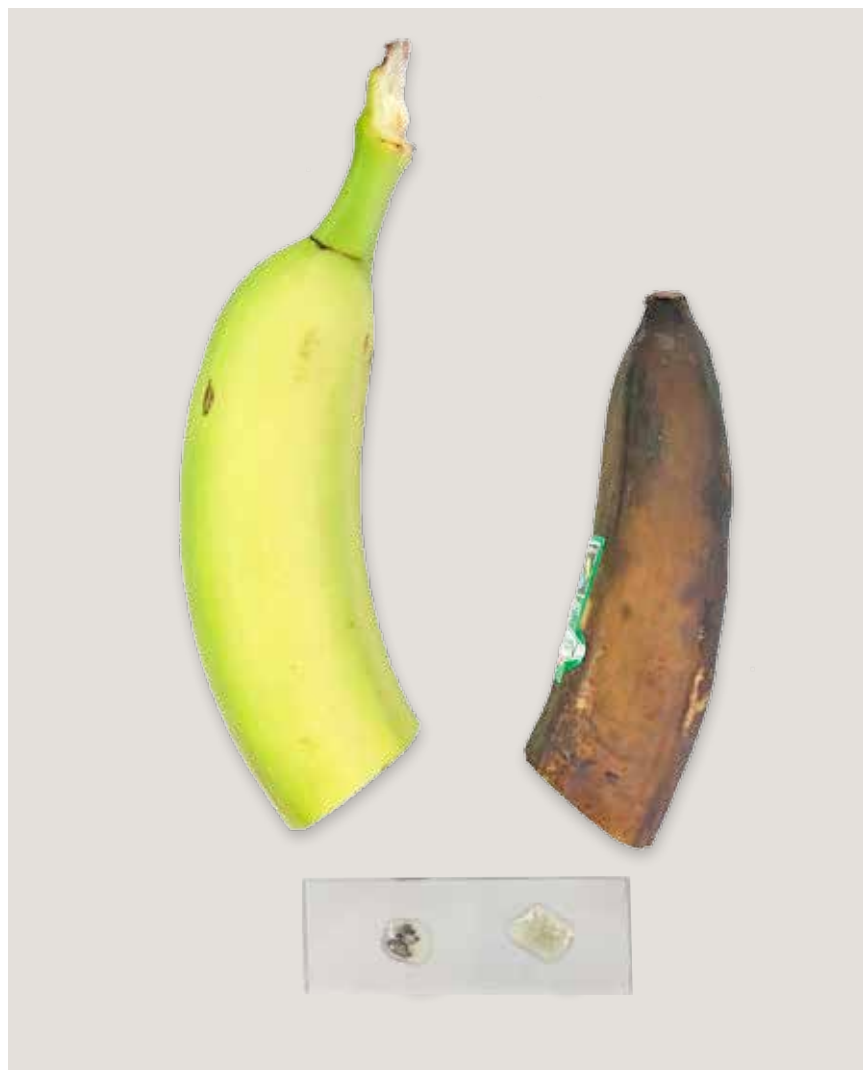

Figure 2: Two samples of banana pulp for viewing under the microscope
1. Smear a small amount of the banana pulp onto a microscope slide and add one drop of Lugol's iodine solution (figure 2).